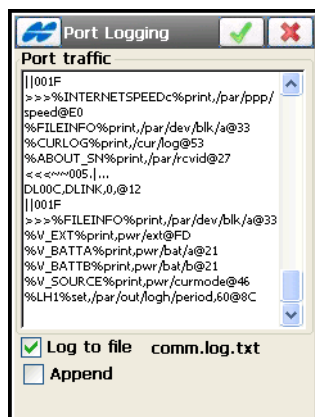

Figure 2-13. Logging to File
3. Tap the ok  icon to return to the *Port Logging* screen to view the data being saved to the file. The file name is also shown on the screen (Figure 2-13).